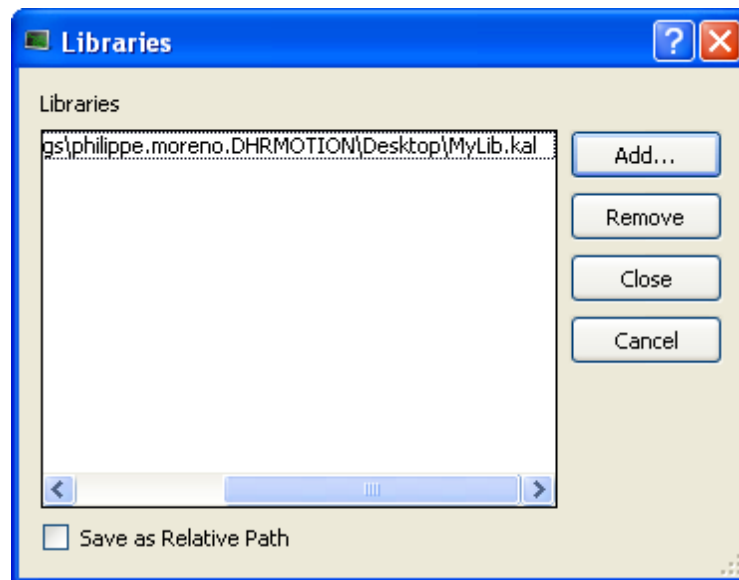

Figure 4-43: Use a Custom Library - Select the Library
- Enter the new path to this library (assuming it still exists on your machine) using the library dialog (see "Figure 4-43: Use a Custom Library - Select the Library " on page 217).